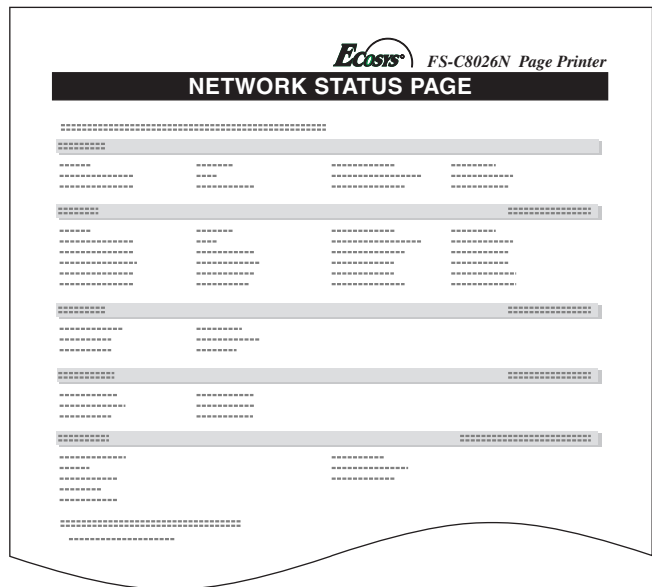

Figure 3-9
Sample network status pages are shown on *Figure 3-9 on page 3-31*.
- 9 Press the **MENU** key. The display returns to Ready. The printer prints network status pages as an example shown in *Figure 3-9* below.